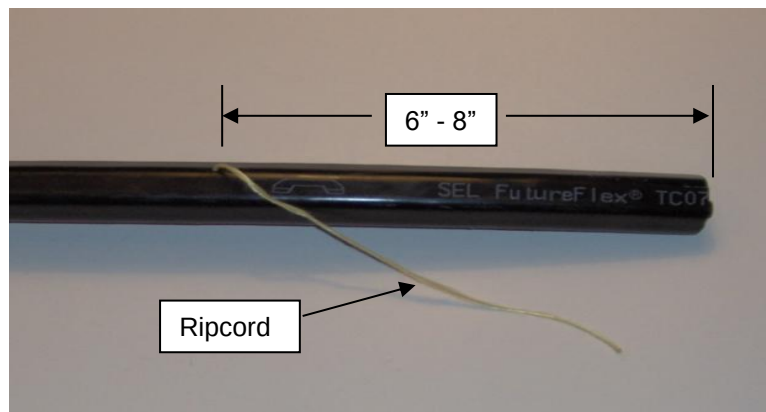

Figure 4
8.3 Locate ripcord inside tube cable end. Use Hook Blade Knife to slit jacket about 6"-8" and bring ripcord up through slit. **See Fig. 4.**